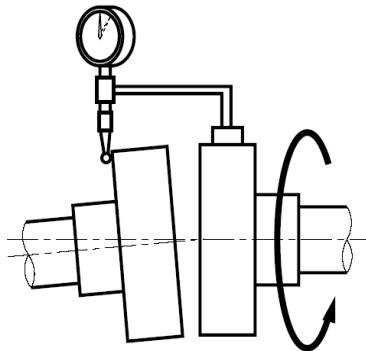

Fig. 1
- 1.) Angular alignment: Check using a levelling instrument, fig.1 the difference should be reduced to an absolute minimum. Refer to permissible maximum value (b - a) in table.